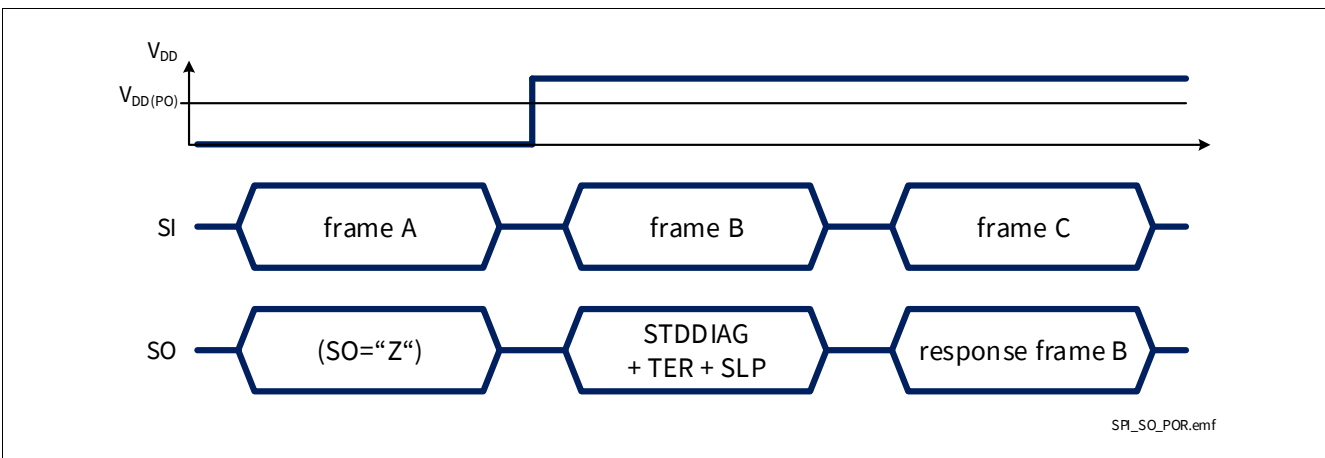

Figure 44 SPI response after coming out of Power-On reset at V_{DD}
- When BTS71220-4ESP digital supply comes out of Power-On reset condition, as shown in Figure 44